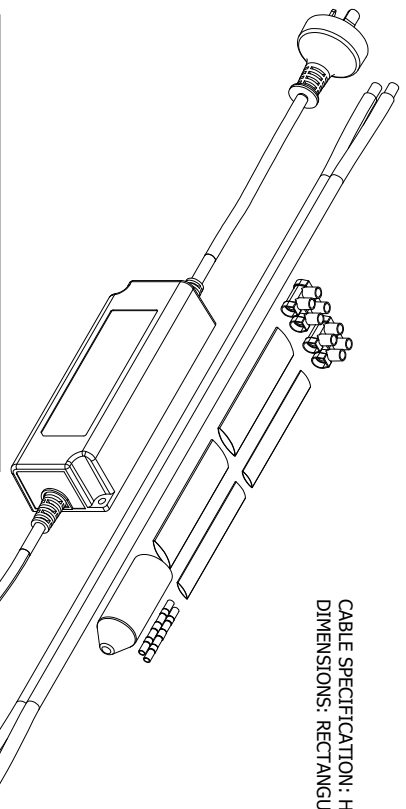

Fig. 1
- 1) Ensure the gasket is present and sitting correctly around the lampholder. (Fig.1)
- 1) Check the list of components. (Fig.1)